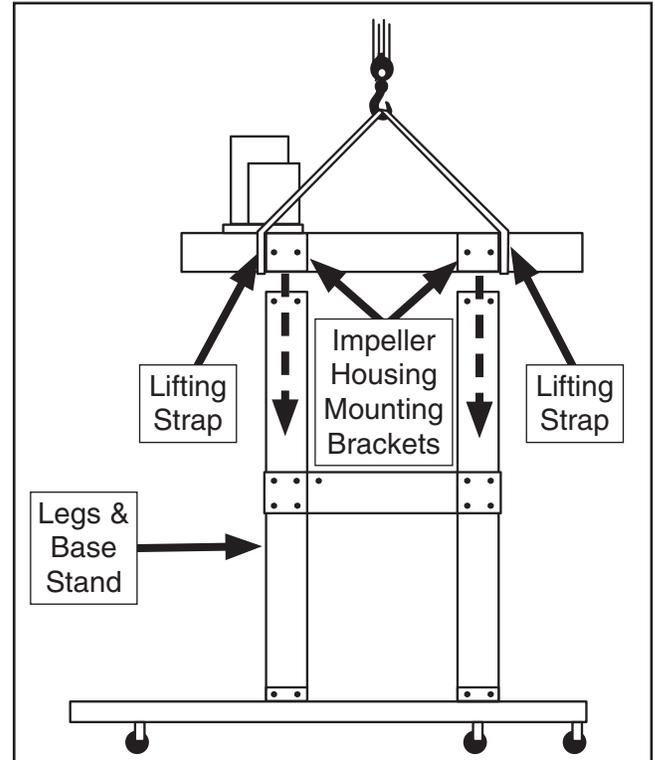

Figure 18. Impeller housing lowered onto legs.
14. While two assistants align legs below impeller housing, slowly lower it so legs slide into impeller housing mounting brackets (see **Figure 18**).